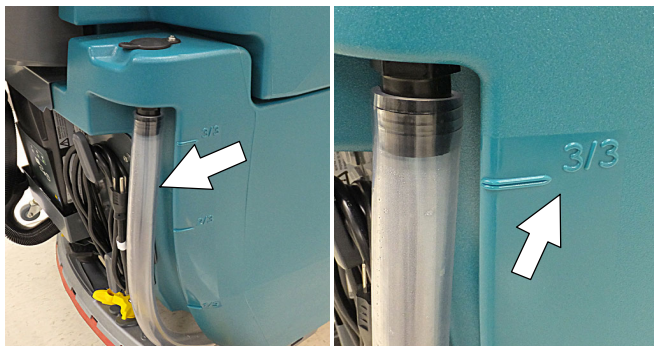

FIG. 20
1. Fill the solution tank with water until level reaches the "3/3" mark on the solution tank drain hose indicator (Figure 20).